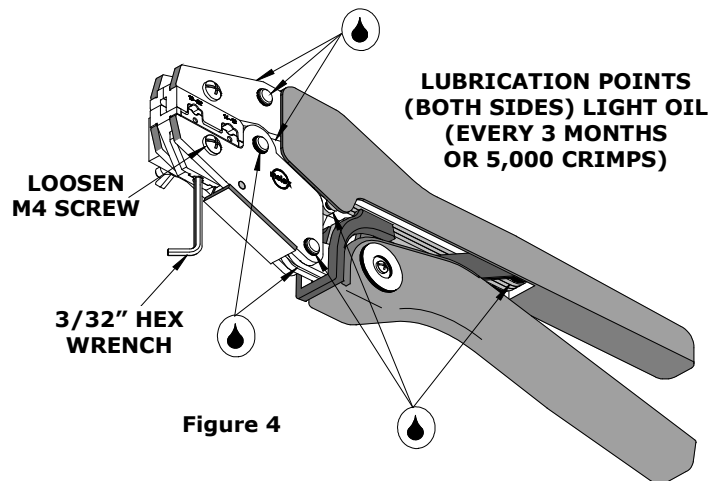

Figure 4
3. Make certain all pins, pivot points and bearing surfaces are protected with a thin coat of high-quality machine oil. Do not oil excessively. This hand tool was engineered for durability, but like any fine piece of equipment, it needs cleaning and lubrication for a maximum service life of trouble-free crimping. A light oil such as a 30 weight automotive oil used at the oil points shown in Figure 4 every 5,000 crimps or 3 months will significantly enhance the tool life and ensure a stable calibration.